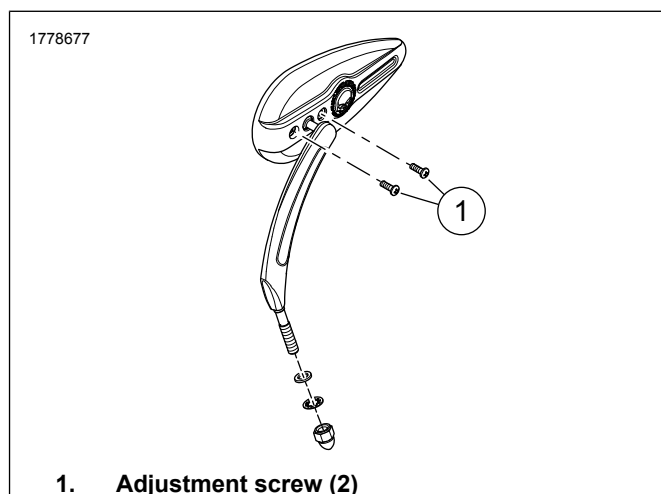

Figure 4. Adjustment Screws
1. See Figure 4. Adjust pivot tension.
- a. Incrementally secure adjustment screws (1). Tighten. Torque: 1.1–4 N·m (10–35 in-lbs)